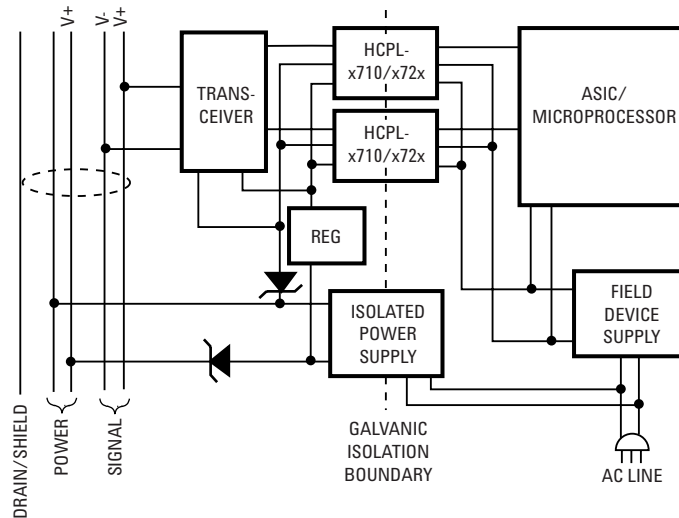

Figure 5. Isolation Node Providing Power to the Network
3. Isolation Node Providing Power to the Network (Figure 5).
The method shown in Figure 5 is recommended when there are a limited number of devices on the network that do not require much power, thus eliminating the need for separate network power supplies. The AC line powers the field device supply locally and also powers the isolated power supply. This supply powers the network, from which one regulator derives DC 5 V to power the transceiver and the isolated (network) side of two optocouplers.